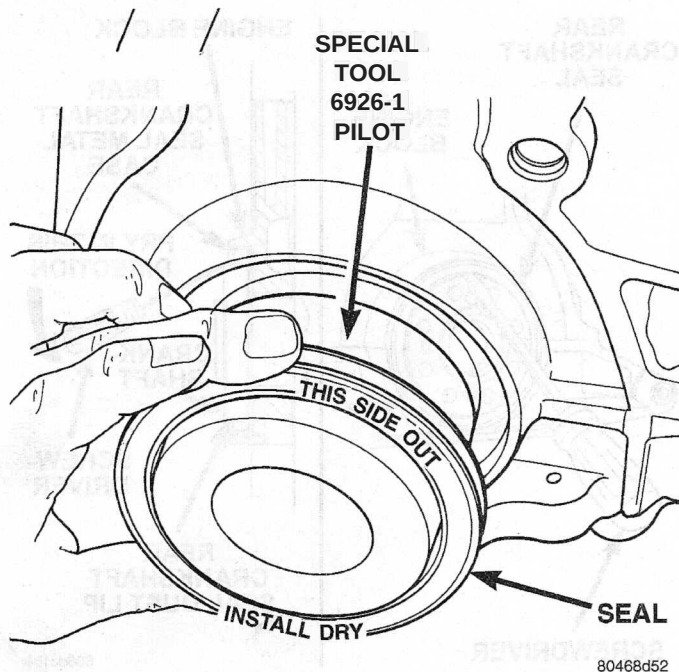

Fig. 79 Rear Crankshaft Seal and Special Tool 6926-1
(1) Place Special Tool 6926-1 on crankshaft. This is a pilot tool with a magnetic base (Fig. 79).
(2) Position seal over pilot tool. Make sure you can read the words **THIS SIDE OUT** on seal (Fig. 79). Pilot tool should remain on crankshaft during installation of seal. Ensure that the lip of the seal is facing towards the crankcase during installation.